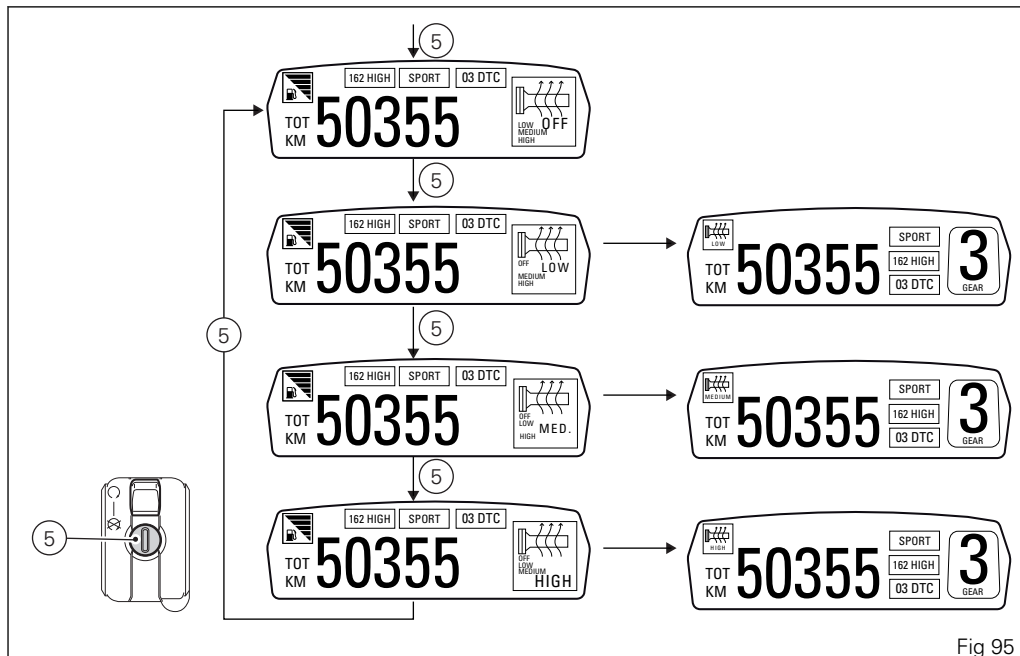

Fig 95
- with Menu 2 disabled (Fig 95);